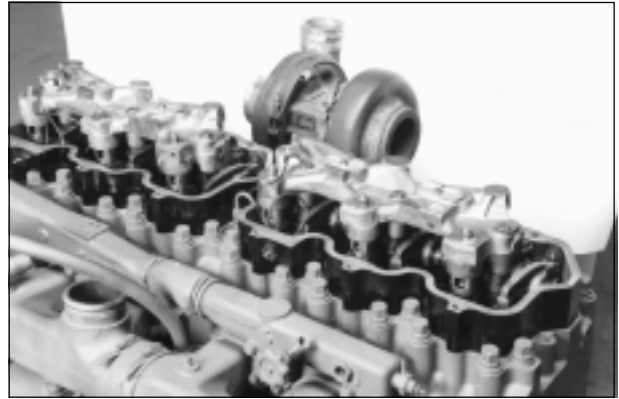

Figure 3-7
2. Figure 3-7 identifies which push tube operates which slave piston. The same procedure for locating TDC for each piston when setting valve lash may be used when setting the engine brake slave piston lash on each cylinder.